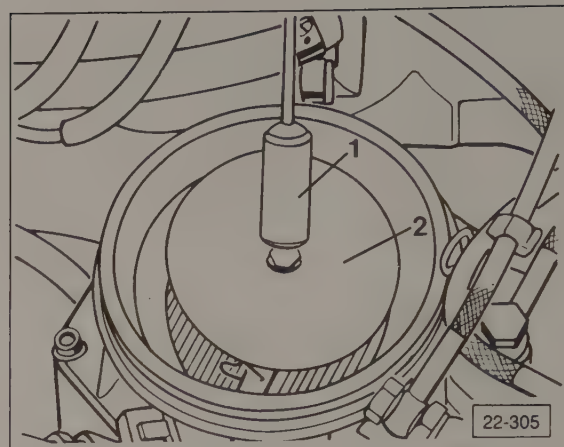

Fig. 4-27. Magnetic tool (1) being used to lift air flow sensor plate (2) for fuel injector quick-check.
4. Using a magnetic tool such as the one shown in Fig. 4-27, lift the air flow sensor plate and observe the injector's spray pattern. The injector should discharge a fine mist of fuel in an even, cone-shaped pattern.